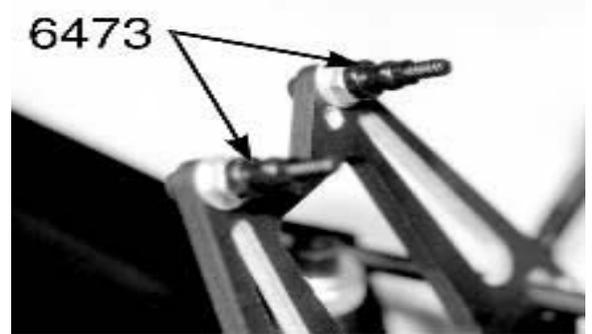

Fig. 134
(7) You will find another two #6473 nylon shock bushings in bag #7-10. Go ahead and install them onto the front shock mounting screws as shown in fig. 134. Again make sure the flange part of bushing is towards the nut.